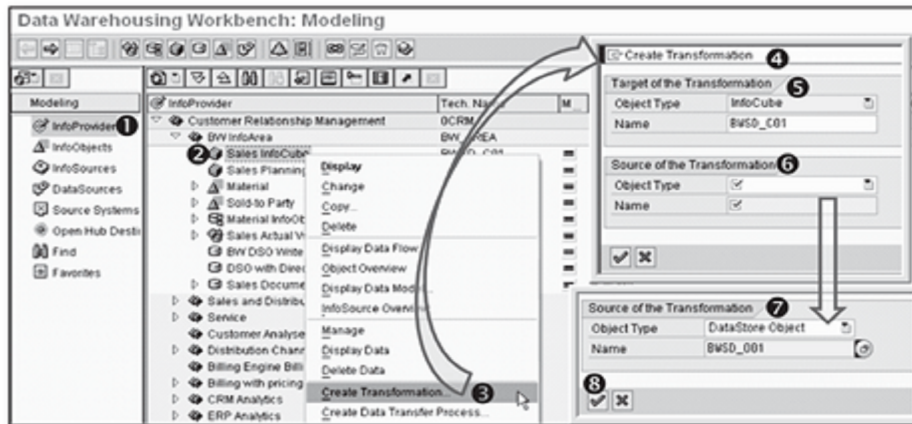

Figure 7.70 Creating Transformation for InfoCube
In DWW, select the InfoProvider section shown in ❶ of Figure 7.70; then select InfoCube BWSD_C01 from the InfoProvider tree (❷). From the context menu, select Create Transformation (❸), which results in the Create Transformation box (❹). The target object and name are displayed (❺), and the source object and name are blank (❻). Select Data Store Object from the Object Type dropdown list, and enter "BWSD_O01" (❼).